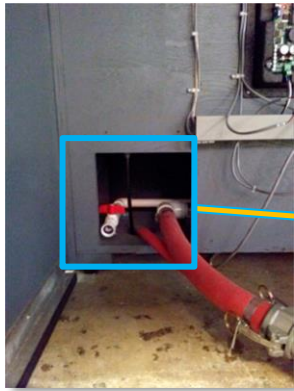
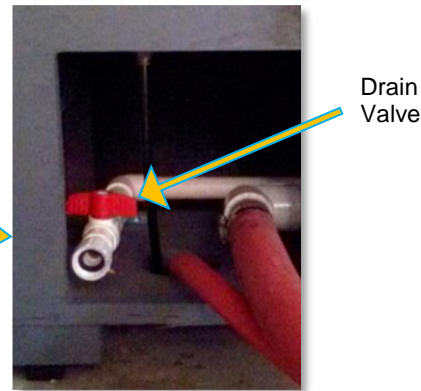

Figure 1.8
Figure 1.9
5.3.1 The secondary drain uses gravity. The location may vary based on the model. The below, *Figure 1.9* is a close up. *Figure 1.8* is from a different model, but gives an idea where it is located.